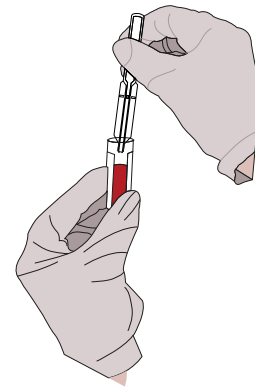

Figure 17. Sample transfer method (only an example)
13. Transfer the test sample to the Labmaster LUCIA™ Vet Test cassette. A sample transfer device (in Figure 17) is shown as an example. Follow the LUCIA Test kit Instructions for Use for suitable transfer devices for the test.